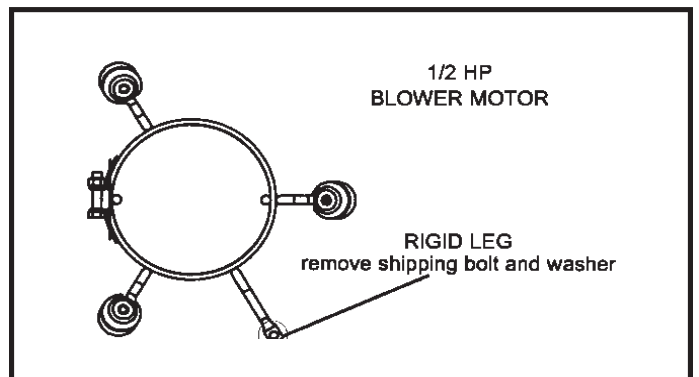

Figure 12
**NOTE:** Units with 1/2 hp blower motors are equipped with three flexible legs and one rigid leg. See Figure 12. The rigid leg is equipped with a shipping bolt and a flat white plastic washer (rather than the rubber mounting grommet used with a flexible mounting leg). **The bolt and washer must be removed before the furnace is placed into operation.** After the bolt and washer have been removed, the rigid leg will not touch the blower housing.